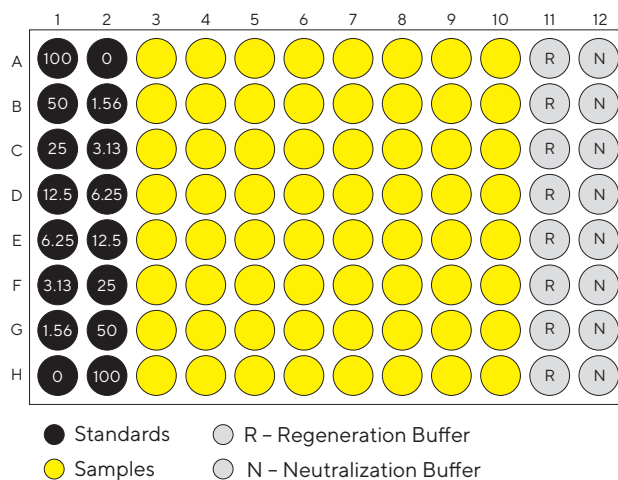

Figure 3: Sample plate layout for analyte quantitation.
- 7.3 Pipette 200 µL of the standards, samples and buffers into a black 96-well microplate in triplicate according to the plate map shown in Figure 3.